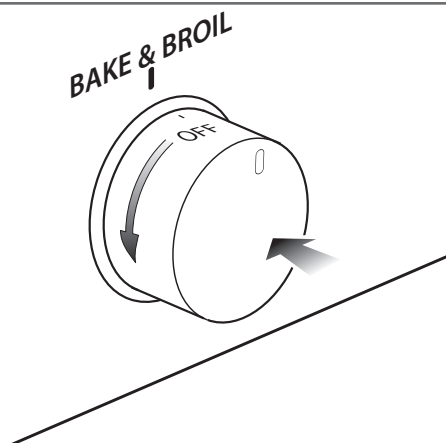

Fig. 3.3 Oven control knob
- 2) Press the oven control knob right down (the igniters will start 'clicking') turn the knob counter-clockwise (fig. 3.3) to max position 8.